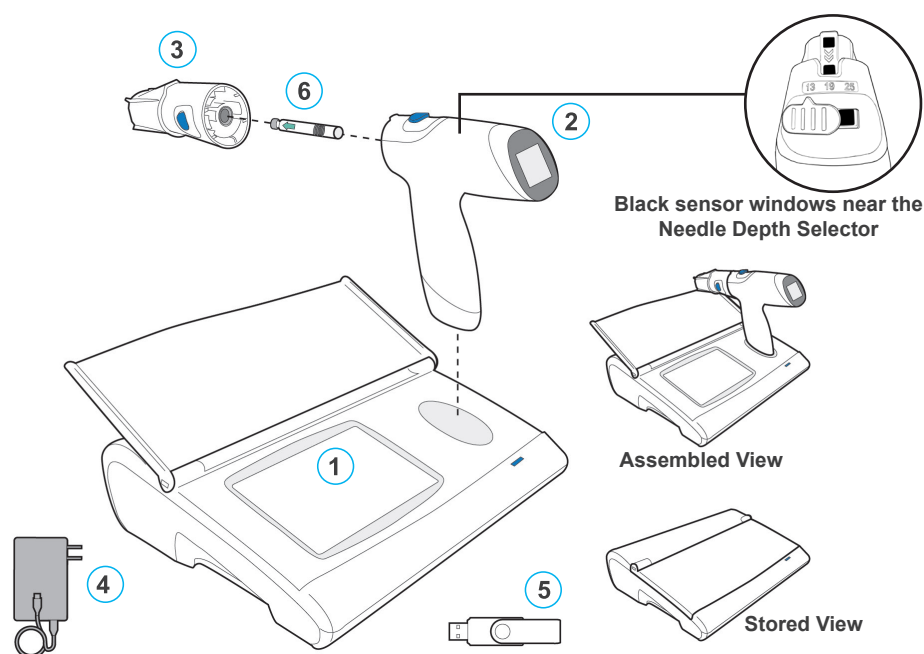

Figure 1 CELLECTRA® 5PSP components and VOCERYQ Cartridge
Caution	<ul style="list-style-type: none">Keep foreign material from covering the black sensor windows near the Needle Depth Selector (see Figure 1) to avoid unintended Array errors that might require restarting the overall treatment procedure.Certain light sources that emit Infrared (IR) wavelengths, such as IR lamps, incandescent light, and direct sunlight located in close proximity to the Handset could influence device performance. In cases where errors are not resolved by following the specific instructions for a given error, moving the device to an area with alternate lighting conditions may resolve the error.
The CELLECTRA® 5PSP device consists of three (3) main components and two (2) additional accessory items provided in the package (Figure 1):